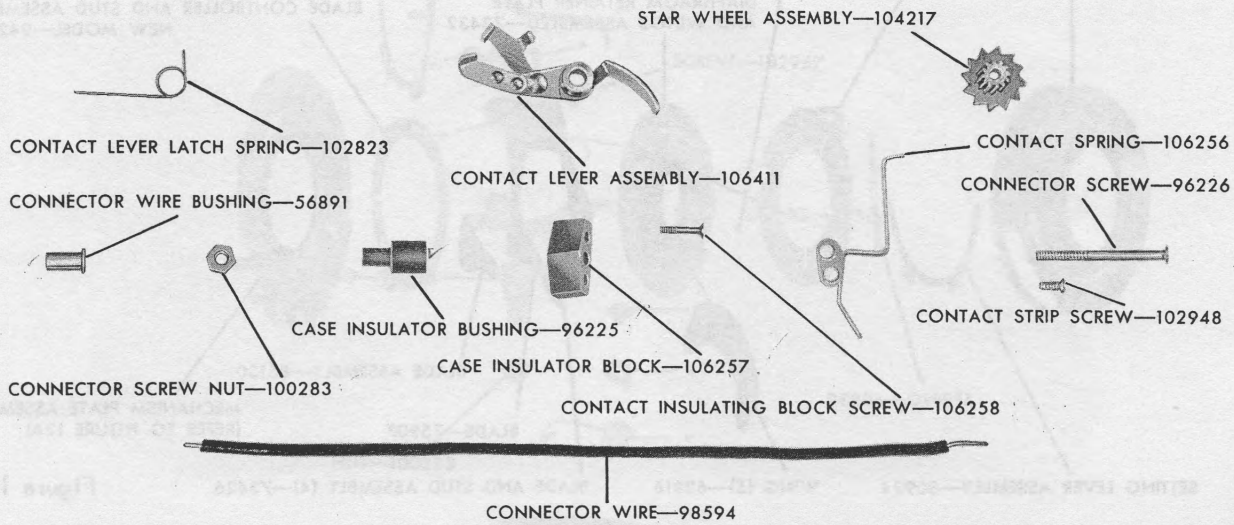

Figure 13
*DISCONTINUED—REPLACE WITH KIT NO. 121352—REFER TO FIGURE 13